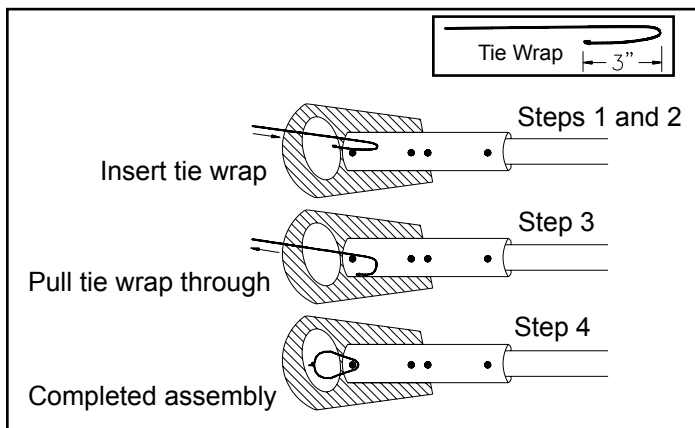

Figure 3. Example of Securing Antenna with Tie Wraps when Installing 2-inch Radome Antenna.
6. Use optional 14–inch tie wrap to secure antennas with 2–inch O.D. radomes, for additional support (Figure 3).